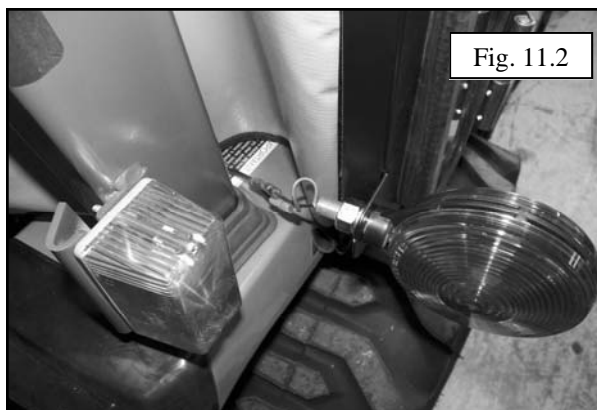

Fig. 11.2
11.2 See fig. 11.2. Mount the turn signal lights to the brackets on the side frames and reconnect the wires using the extension wires provided in the kit. **NOTE:** Just run the wires under the rear curtain or rubber seal at the bottom of the optional rear panel and through the hole in the fender where the lights were originally mounted.